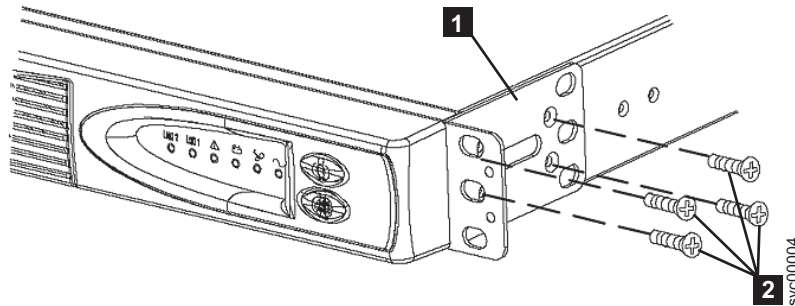

Figure 11. Attaching the mounting bracket to the uninterruptible power supply 5115
3. On each side of the UPS 5115, attach the long end of a mounting bracket **1** to the UPS 5115 using four of the supplied M3 × 6 screws **2**. See Figure 11.